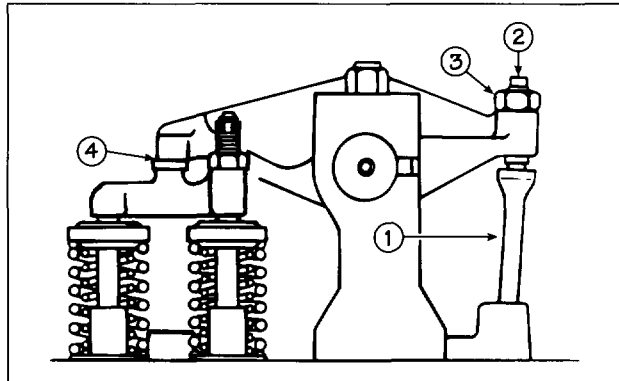

FIG. 11
Refer to Fig. 11. Locate the exhaust rocker arm adjusting screw in the socket of the exhaust valve push rod (1). Insert the feeler gage between the rocker arm and valve bridge. Turn the rocker arm adjusting screw (2) clockwise until the proper clearance (4) is set. Hold the adjusting screw and torque the locknut (3) to $25 \pm 7 \text{ N}\cdot\text{m}$ ($18 \pm 5 \text{ lb}\cdot\text{ft.}$).